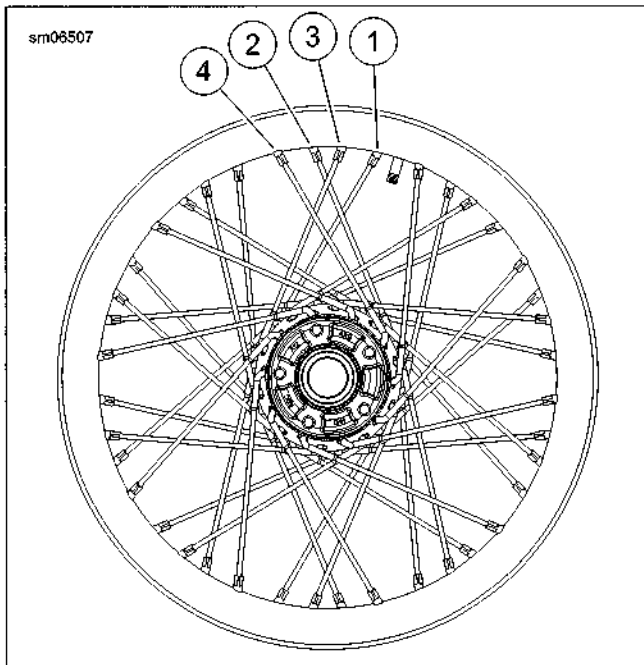

Figure 2-28. Center Valve Rim
- b. **Rim with center valve hole:** See Figure 2-28. Start at the first hole counterclockwise (1) from valve stem hole.
- a. Starting at the 2nd hole counterclockwise (2) from first spoke installed, install inner spoke.
11. Starting at the first hole counterclockwise (3) from first spoke installed, install inner spoke. Install all remaining inner spokes in every 4th hole.
13. Install outer spokes in remaining holes (4).